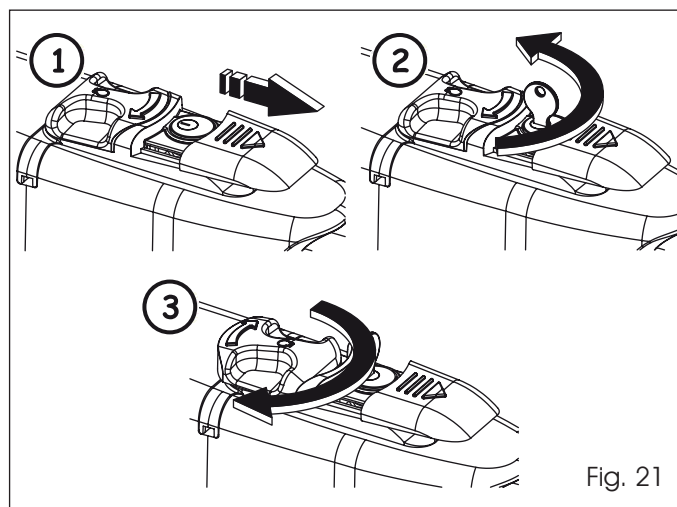

Fig. 21
2. Slide the protective cap, Fig. 21, Ref. 1.
3. Insert the key and turn it 90°, Fig. 21, Ref. 2.
4. To release the operator, turn the control lever 180° in the direction indicated by the arrow on the release system, Fig.21, Ref. 3.